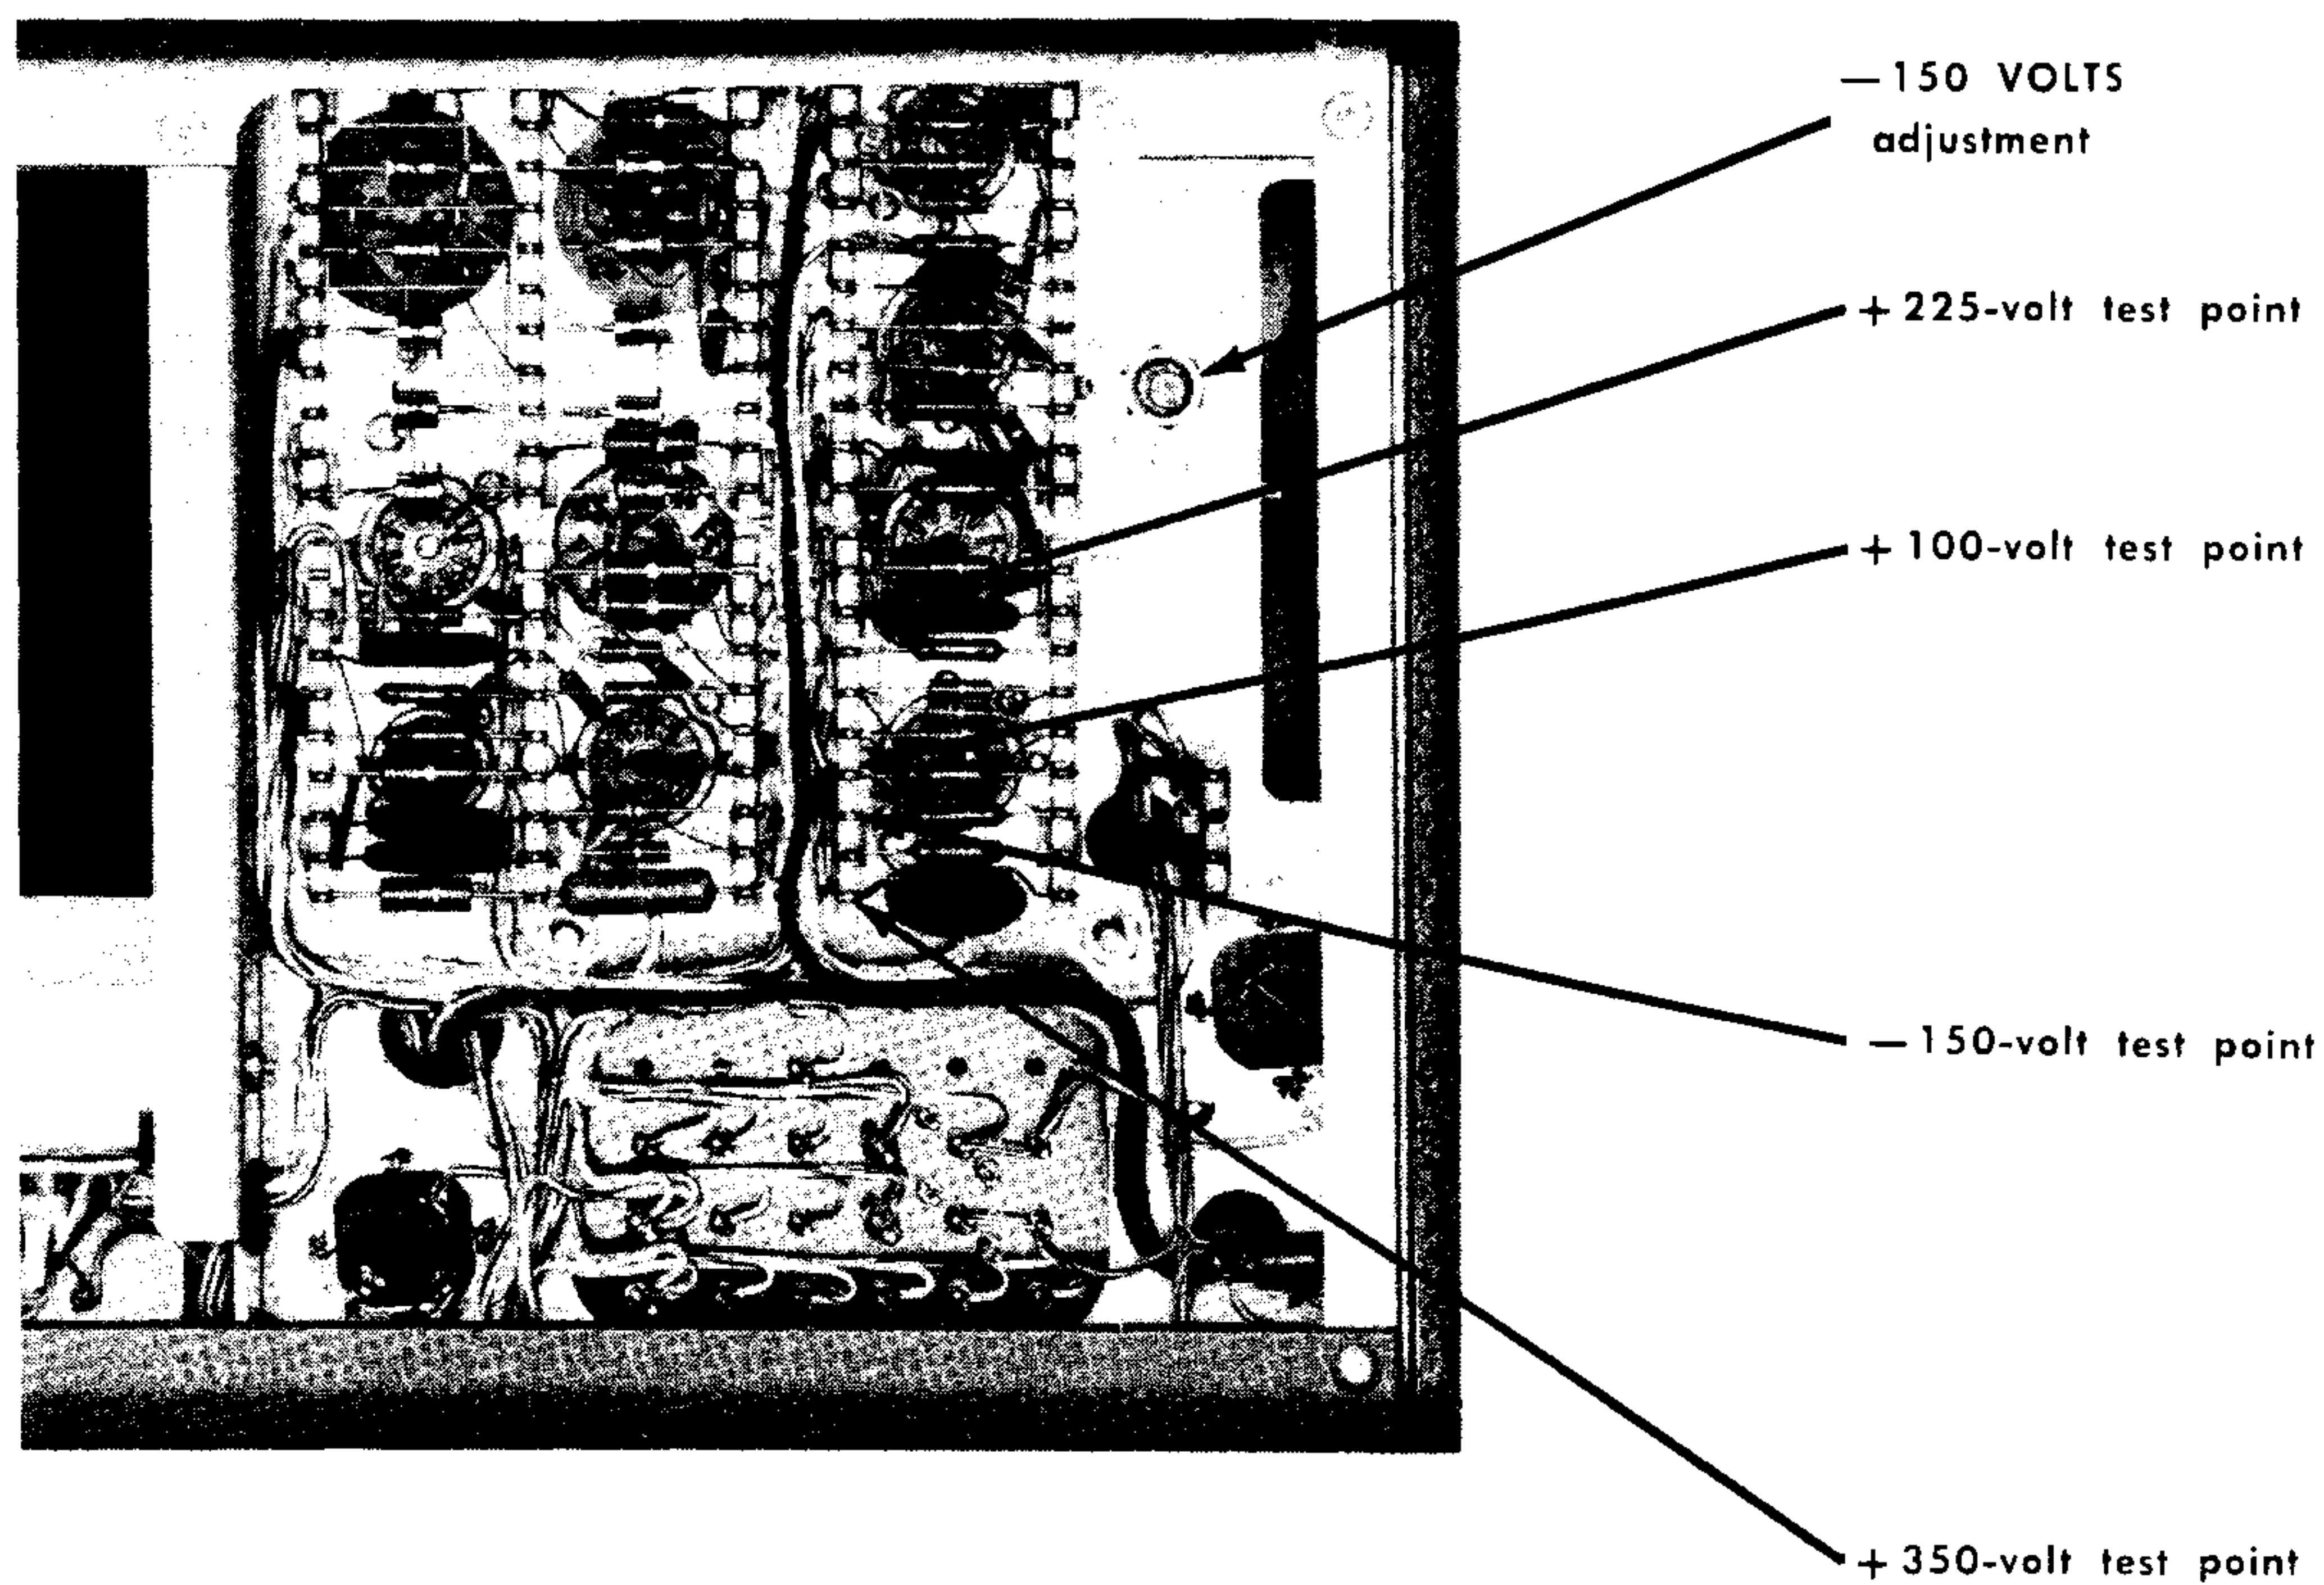

Fig. 3-1. Type 132—right-side view showing -150 VOLTS adjustment and power supply check points.
Figs. 3-1 and 3-2 show the location of all the internal adjustments and test points referred to in this portion of the manual.
**—150 VOLTS Adjustment.** Connect the dc voltmeter between ground and the —150-volt test point shown in Fig. 3-1 and adjust the —150 VOLTS adjustment for exactly 150 volts.
**Power Supply Operational Checks.** Connect the dc voltmeter between ground and the +100-, +225-, and +350-volt test points shown in Fig. 3-1. The voltage at each point should be within 3% of its nominal voltage.
Connect the 1X probe from the test oscilloscope to each of the voltage test points shown in Fig. 3-1 and vary the autotransformer output voltage from 105 to 125 volts (210 to 250 if your instrument is wired for 234 volts). The peak-to-peak ripple voltage on any of the supplies should not exceed 20 millivolts. To make the foregoing measurements, set up the test oscilloscope as follows: